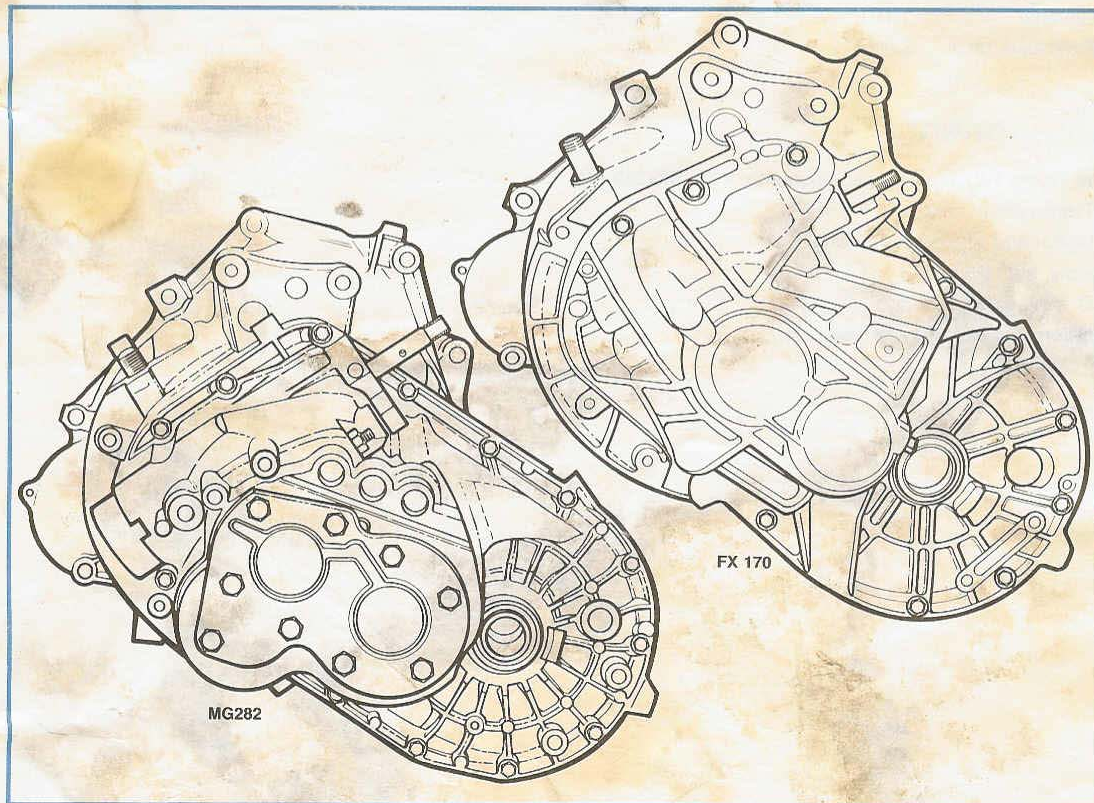

Figure 1-1, MG282 and FX 170 Transaxle Comparison.
- The unit must have the same size as Muncie's 4-speed transaxle (FX 125 and 170), (Figure 1-1).